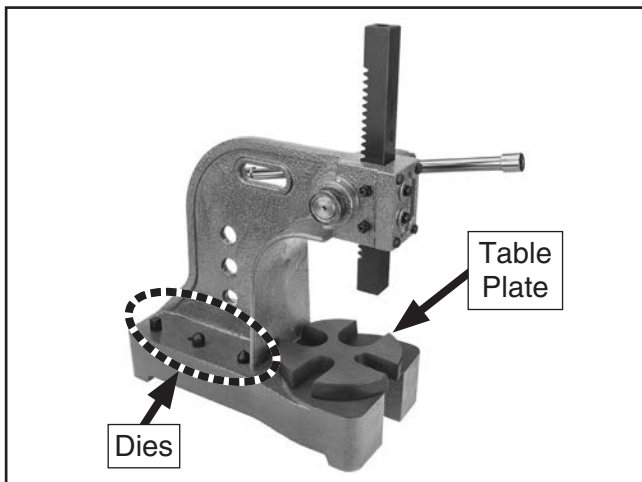

Figure 8. Table plate and dies.
4. Raise ram and insert table plate pin into base (see **Figure 8**).
5. Insert included dies in provided storage holes on base (see **Figure 8**).
Rotate table plate to align desired table opening size under ram (see **Figure 8**).